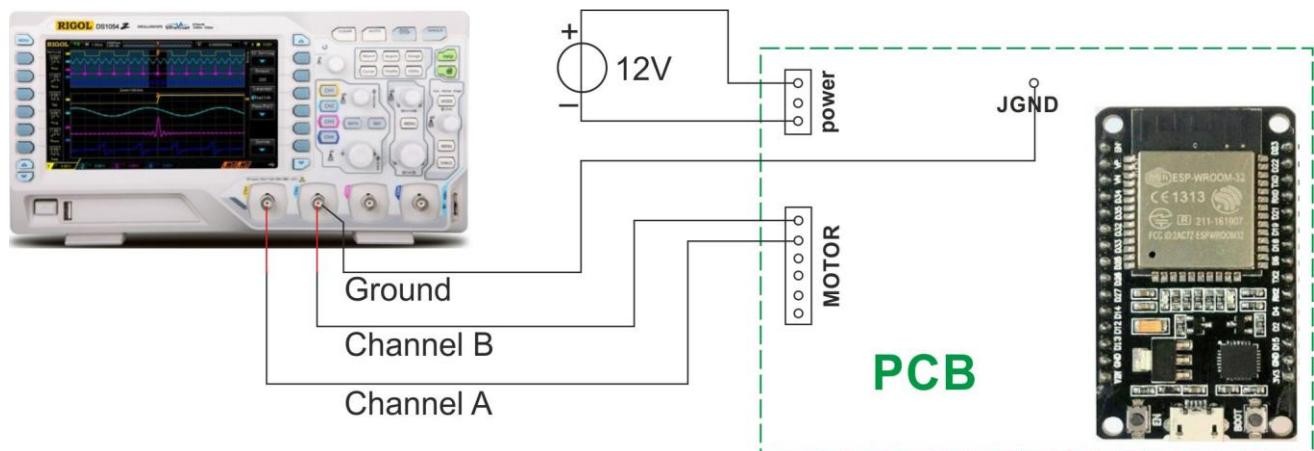

figure 4.4: Measurement setup for testing the full bridge converter.
- Power planes reduce EMI (Electro Magnetic Interference) because they 'absorb' electromagnetic radiation. Because the bottom copper layer is used as a ground power plane, you must try to place all traces, except the ground traces, on the top copper side. To avoid crossing traces, you might have to rotate or relocate components on the PCB. Sometimes you can avoid crossing traces by routing traces in between the pads of components. If it is really impossible to place a trace at the top side without crossing other traces, you can place (a part of) the trace on the bottom side. Make this bottom side trace as small as possible. This reduces the disruption of the power plane by the trace. Figure 4.4 shows an example of a small part of a PCB design.
figure 4.4: Design of a PCB. The red squares are the pads of the components on the top side, the red lines are the traces on the top side that connect the pads of the components to each other. The blue background is the ground copper plane on the bottom side. The small grey circles with a black center point are vias. They connect the top copper with the bottom copper. Most of them are used to make connection of components with the ground. Enclosed by green curved rectangles, there are small traces on the bottom side. Note that some traces lie in between pads of components..
To test the H-bridge converter, we use the circuit given in figure 4.4. The outputs of both half bridges are connected to a scope, so we can see their characteristics (amplitude, frequency and duty-cycle).